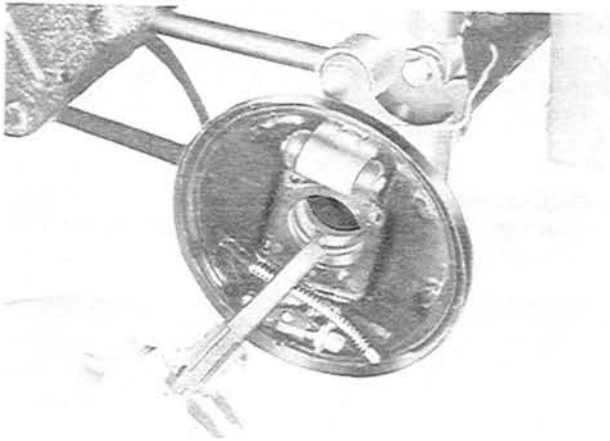

Fig. 9-5 Measuring of depth
2. Check the rear axle shaft end play as follows: Install the backing plate temporarily and measure the depth of the bearing seat in the axle housing, using a depth gauge as shown in Fig. 9-5.